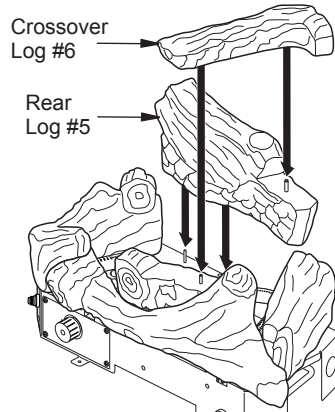

Figure 19 - Installing Rear Log #5 and Crossover Log #6
6. Place crossover log (#6) onto log alignment pin on middle log (#1) and rear log (#5) (see Figure 19).